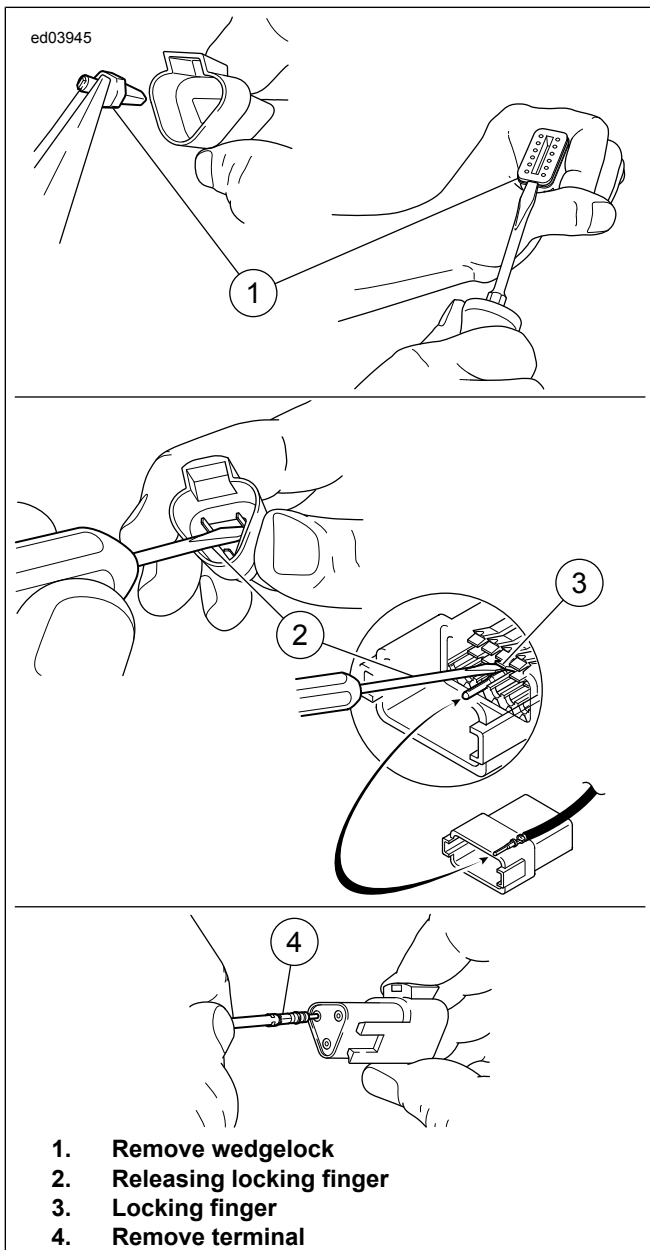

Figure B-17. Terminal Removal
1. See **Figure B-17**. Remove wedgelock using needlenose pliers or removal tool.